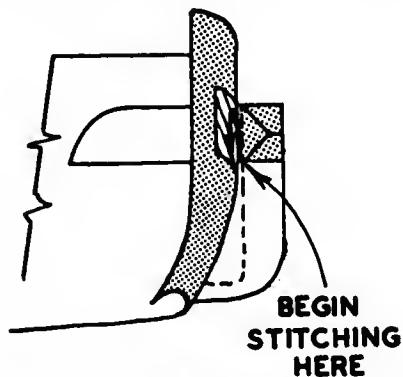

Fig. 136. Fastening the triangles.
- E. Fasten the triangles by stitching from the wrong side at each end of the mouthline from the bottom of the pocket up, to keep the opening from spreading (Fig. 136).